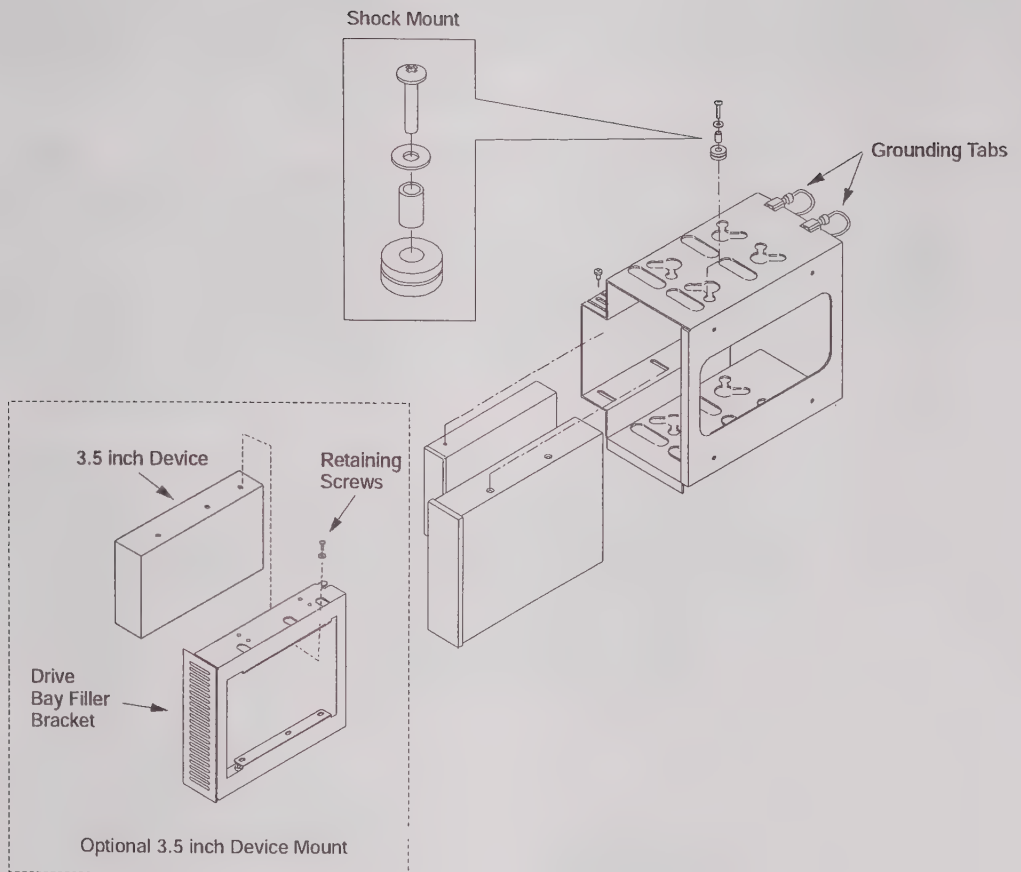

Figure 4-4: Drive Cage Disk Drive Installation
3. To install an optional 3.5-inch device in the drive bay, install the device in the drive cage filler bracket (**Figure 4-4**).
4. To install 5.25-inch drives, first install the shock mount rubber grommet in the drive cage. The front access drive cage has two available positions. Select the position that best suits your configuration and allows the access door to close. Place the drive(s) in the drive cage and attach with four screws (**Figure 4-4**). Be sure to use the proper thread (SAE or Metric) and length screws for your drive(s). Using a screw that is too long may damage your drive electronics, your CPU, or both.